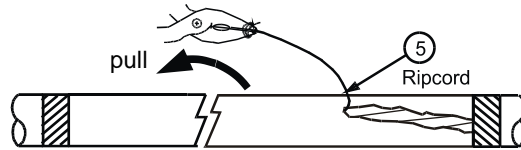

**Figure 6 – Expose and cut the ripcords.**
**5.2** Shave off approximately 4 inches (10 cm) of the sheath at one of the tape marks and locate the ripcords (Figure 6). Cut the ripcords at the tape mark.